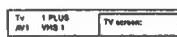

Fig. 42.
- 2 Select TV screen (input source for the TV screen), PIP (input source for the PIP screen), or Output (output source) with Δ + or ∇ – and press OK. One of the source items changes colour. (See Fig. 42.)